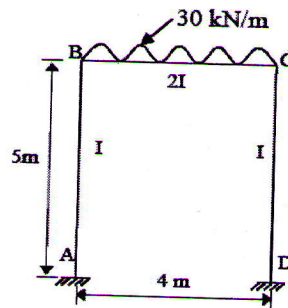

Fig.4
- 4 a) Define the following terms: (5)
b) Analyse the rigid frame shown in fig.4 by moment distribution method and draw the BMD. (10)